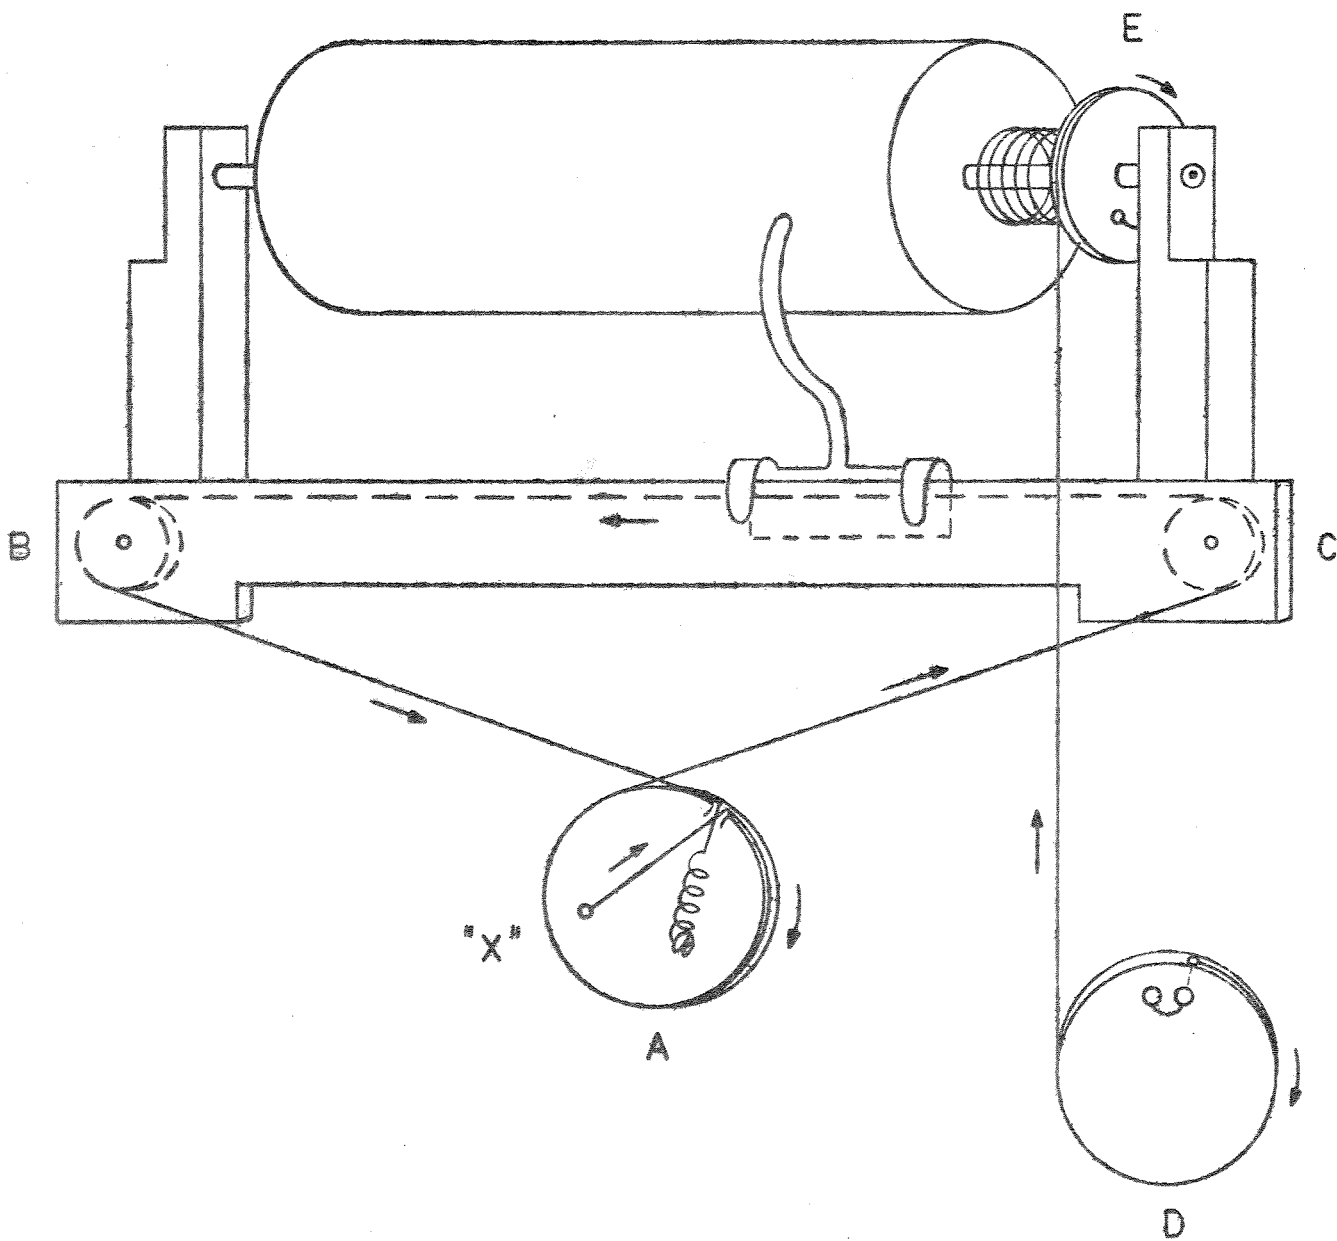

Figure 5-7 Dial Cord Drawing
5.8.1. POINTER CORD. - Refer to figure 5-7. Remove the front panel as outlined in paragraph 5.6.2. If the cord is to be replaced, a 36-5/8" length of Collins number 432 1009 00 nylon covered cord is necessary.